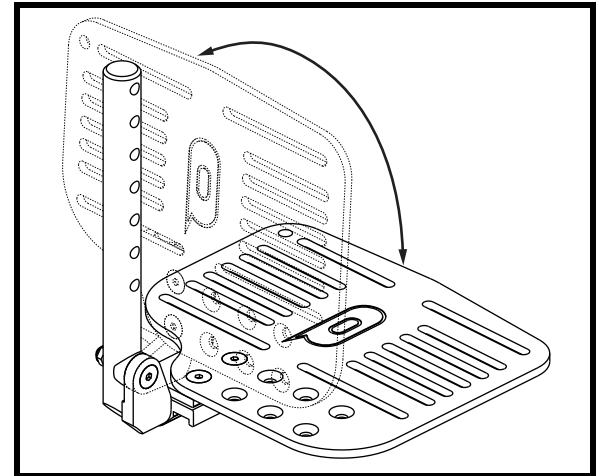

Figure 29. Foot Plate Flip Up Adjustment
The angle adjustable foot plates have two adjustments: angle and depth. The depth can be adjusted to four (4) positions in 1-in. (2.54 cm) increments. If the position of the foot plate adapter is reversed, an additional 0.75 in. (2 cm) of depth can be achieved at the most forward and most rearward positions. See **figure 29**. The foot plates can also be flipped up for ease of transfer. See **figure 29**.